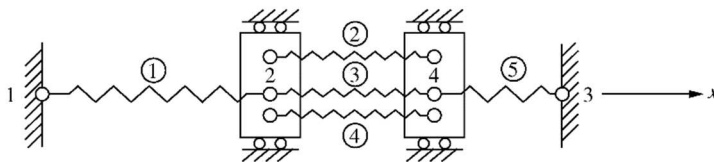

Figure 6
- c) For the spring assemblage shown in Figure 6, obtain the global stiffness matrix by the direct stiffness method. Let $k^{(1)} = 1$, $k^{(2)} = 2$, $k^{(3)} = 3$, $k^{(4)} = 4$, and $k^{(5)} = 5$. (8 marks)